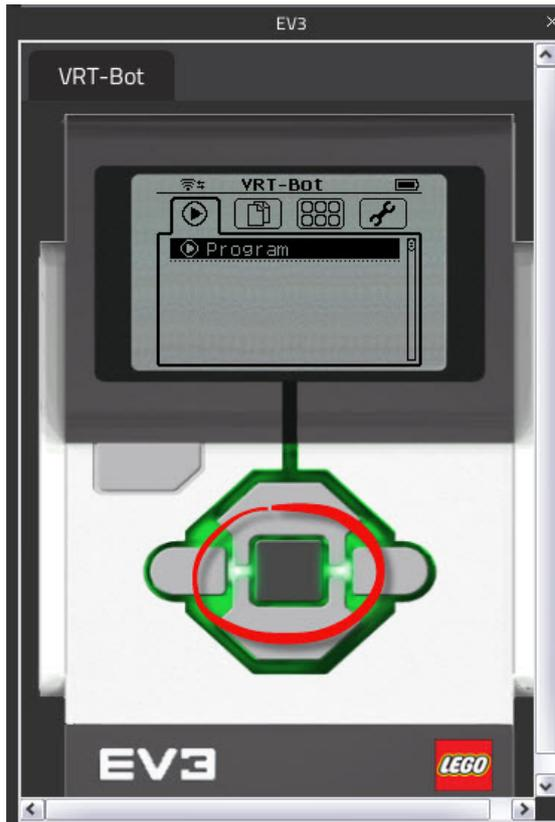

Figure 4.25: Running program on digital EV3 brick.
- Run the program on the brick as shown here in Figure 4.25.